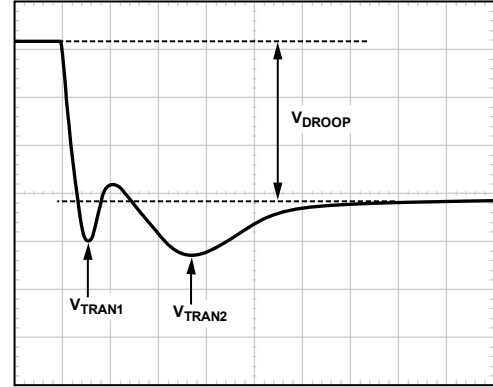

Figure 42. Transient Setting Waveform, Load Step
- With the dynamic load set at its maximum step size, expand the scope time scale to $2 \mu\text{s}/\text{div}$ to $5 \mu\text{s}/\text{div}$. This results in a waveform that may have two overshoots and one minor undershoot before achieving the final desired value after V_{DROOP} (see Figure 42).